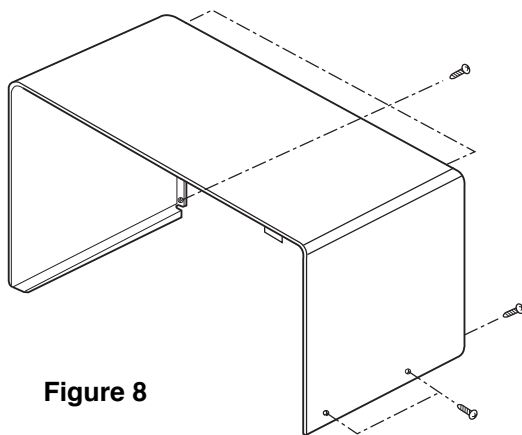

Figure 8
A. REMOVING OUTSIDE CASE (Figures 8)
- (1) Remove three screws from the rear section.
- (2) Remove one screw from the side section.
- (3) Push the outer case back about 1 inch (3cm).
- (4) Lift the case from the set.